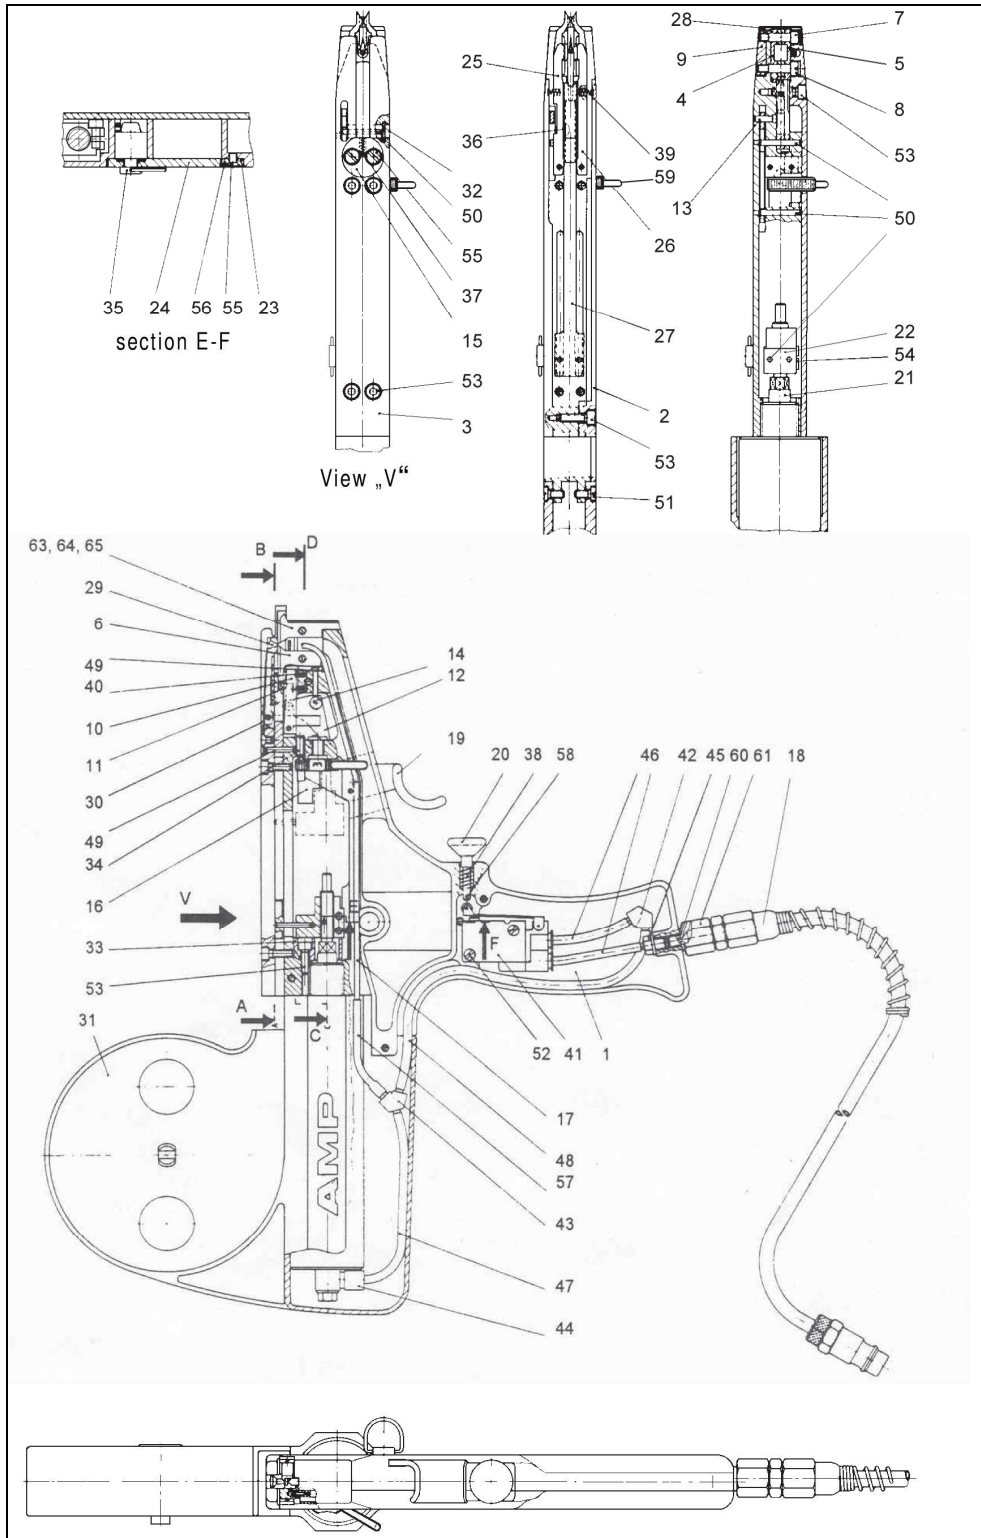

Fig. 18: Assembly Drawing
Damaged clips jamm against rear of clip guide anvil (item 6, Fig. 18)	Unload tool (section 6.3), break real off and discard damaged clips, then reload tool (section 6.2)
Worn or broken catch springs (Item 10 + 11, Fig. 18)	Replace catch springs (section 13.4)
Worn or damaged push rod (item 27, Fig. 18)	Replace push rod (section 14.1)
Worn or damaged clip guide anvil (item 6, Fig. 18)	Replace clip guide anvil (section 8.1)
All replacement processes refers to assembly drawing Fig. 18.